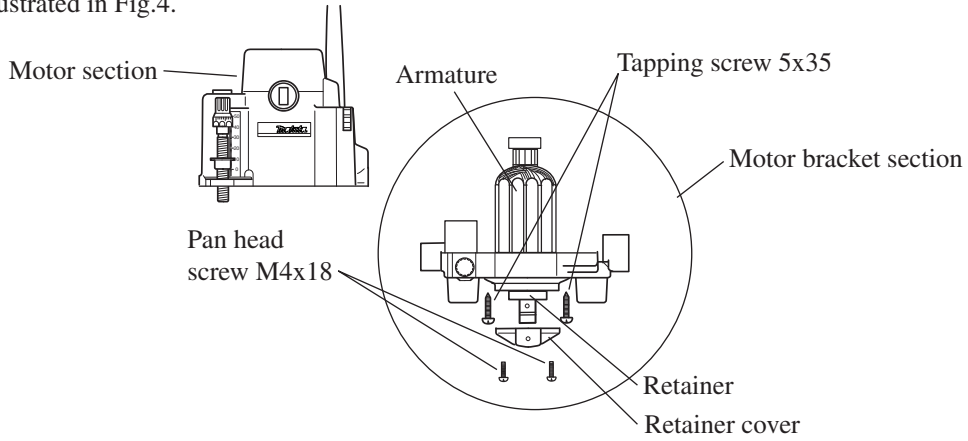

Fig.4
- (8) Remove retainer cover by taking off 2 pcs.of pan head screw M4x18 as illustrated in Fig.4.
- (9) Separate motor bracket section from motor section by taking off 4 pcs. of tapping screw 5x35 as illustrated in Fig.4.